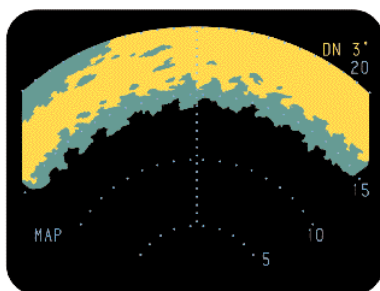
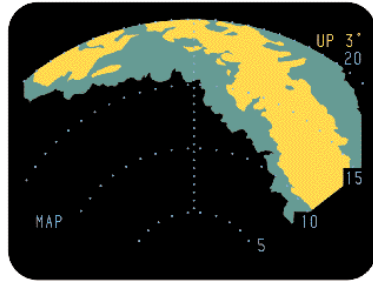

Figure 1
Figure 2
4. While flying level (0 degree pitch, 0 degree roll), adjust the tilt control for a video pattern shown in Figure 1.
- Turn the STAB on. If the pattern appears as Figure 2 or 3, the RDR 2100 can compensate for this using ROLL TRIM. Adjust the ROLL TRIM with a small screwdriver through access on radar indicator controller until figure 1 is achieved.
- For perfect stabilization, the pattern shown in Figure 1 should not shift. The information displayed will change, however, the inner extremity should remain coincident with the third range mark.
- If the pattern shifts as shown in Figure 2, increase the tilt angle until the edge of the video pattern reaches the same position as the center was before the roll maneuver. Note the new position of the tilt control. Proceed to step 11.
- Check pitch performance as follows: Re-establish Figure 1 by flying straight and level. Momentarily pitch the aircraft up 5 degrees (no more than 10 to 20 seconds to minimize altitude change). If the inner ring of clutter moves further out in range, readjust the tilt downward until the pattern returns as it was before the pitch maneuver. Note the tilt change. If the clutter moved inward, adjust the tilt upward and note the change. If the tilt change is greater than 2 degrees, the system should be ground checked to recalibrate the pitch.